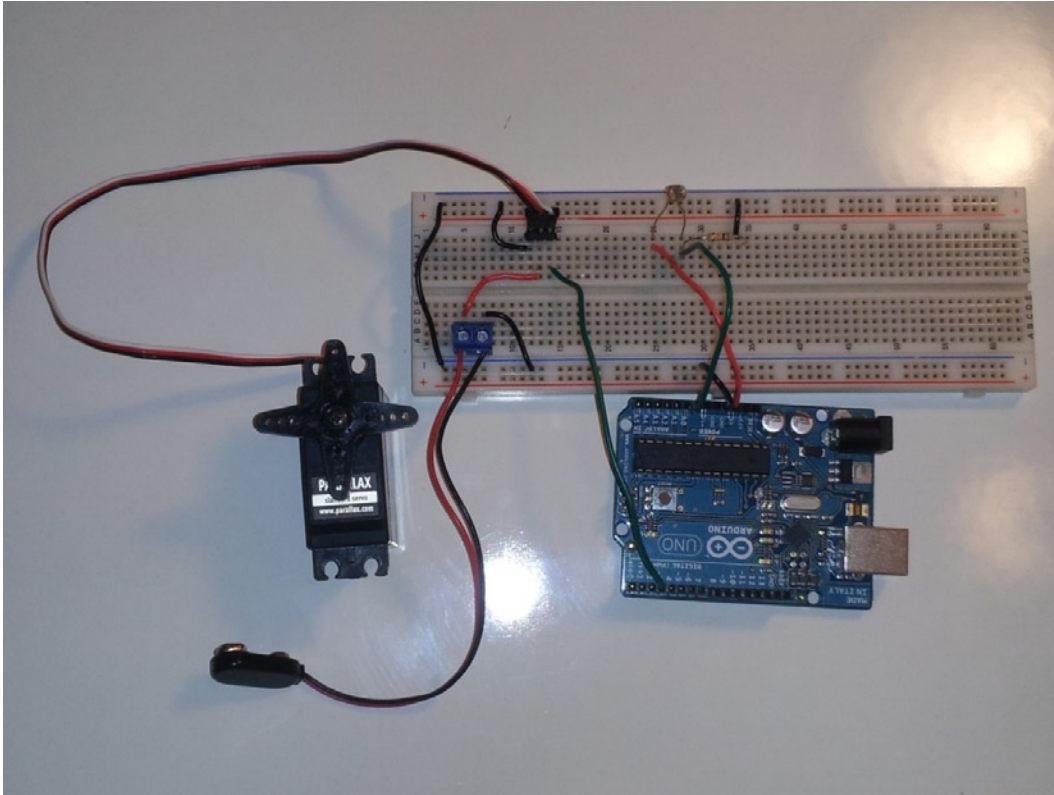

Figure 27-15. The final Challenge 7 gizmo!
14. Figure 27-15 shows the final gizmo (minus the battery power or USB cable being connected).